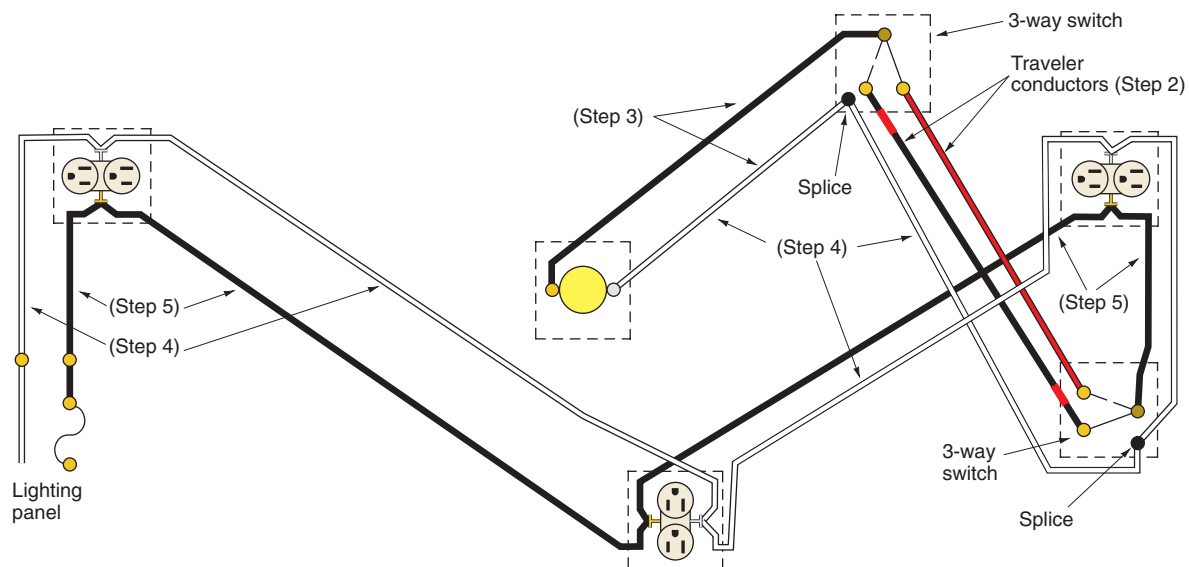

FIGURE 8-6 Wiring diagram of the circuit shown in Figure 8-5. (Delmar/Cengage Learning)
2. Draw a wiring diagram showing the traveler conductors for all 3-way switches, if any, as in Figure 8-6.
- The final step in preparing the wiring diagram is to mark the color of the conductors, as in Figure 8-6. Note that the colors selected—black (B), white (W), and red (R)—are the colors of 2- and 3-conductor cables (refer to Chapter 5). It is suggested that the reader use colored pencils or markers for different conductors when drawing the wiring diagram.